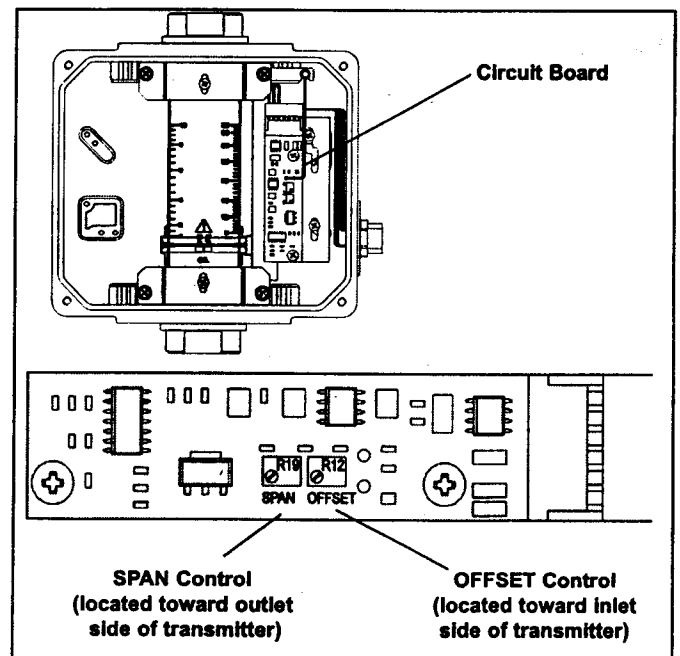

Figure 8. Transmitter Adjustments
OFFSET & SPAN Adjustment (Figure 8)
2. Locate the OFFSET and SPAN controls on the circuit board (Figure 8).